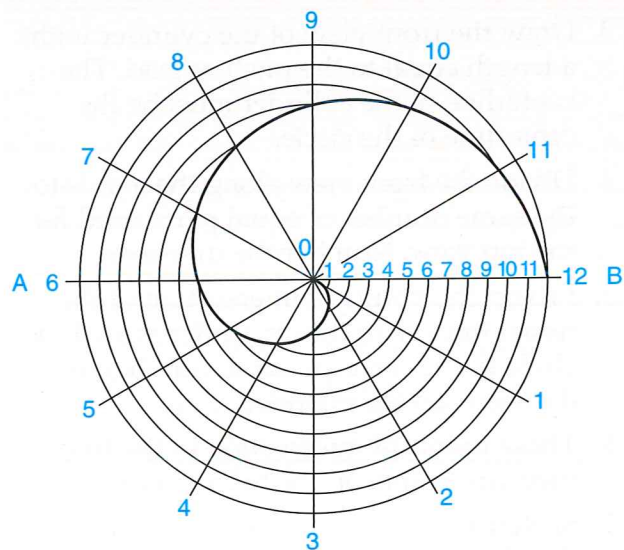

Figure 7-23. A spiral of Archimedes curve is formed by a point moving uniformly around and away from a fixed point.
The *spiral of Archimedes* is formed by a point moving uniformly around and away from a fixed point, **Figure 7-23**. The spiral of Archimedes curve is used in the design of cams to change uniform rotary motion into uniform reciprocal (straight-line) motion.
1. The rise of one revolution, OB , is given. Refer to **Figure 7-23**.
6. Enter the **Spline** command and draw a curve connecting the points. Specify the first point as Point O . Specify the second point as the point where the first circle (the smallest circle) intersects the first radial line. Refer to **Figure 7-23**. Continue picking points to define the curve. Specify the default start and end tangents to complete the curve.